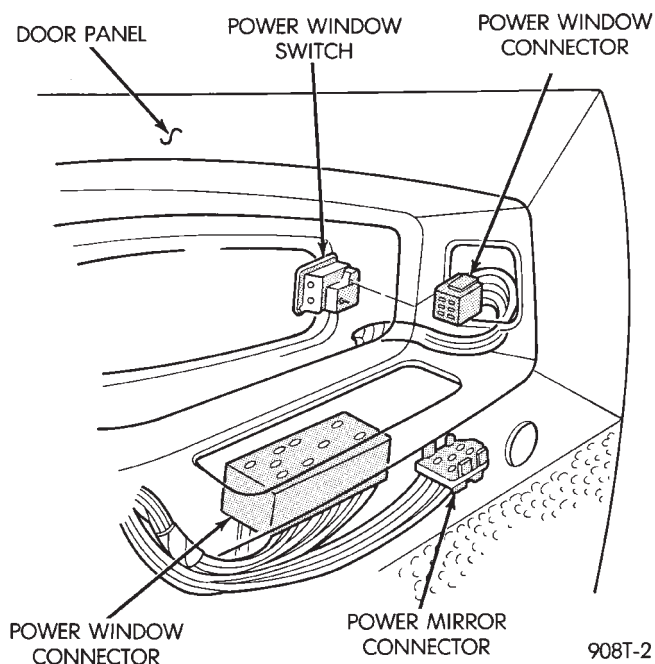

Fig. 10 Power Mirror Switch — AG, and AJ Bodies
- (1) Carefully pry switch from switch bezel (Fig. 10).